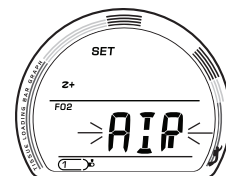

Fig. 27 - SET GAS 1
**NORM/TECH SET GAS 1**, information includes (Fig. 27, 28):